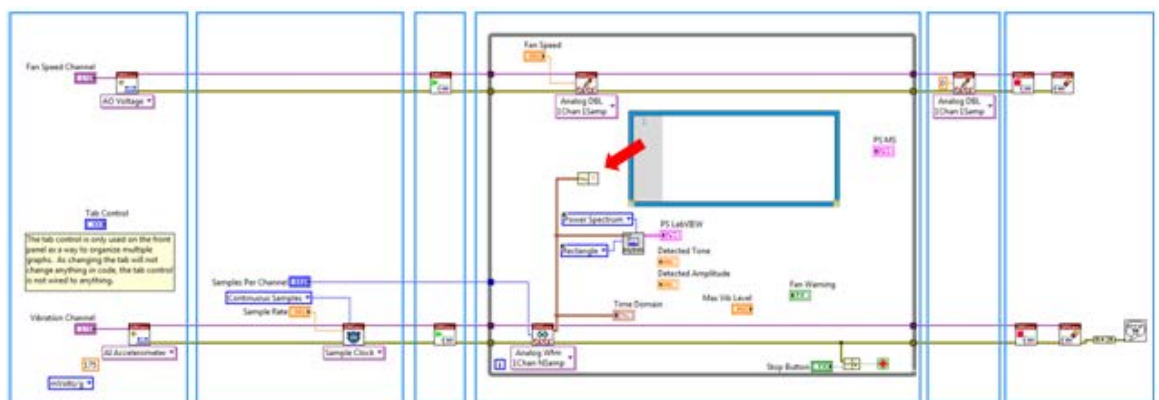

Figure 36. When you place the MathScript Node, give yourself enough room to type a few lines of text.
10. Drag a small box in the position shown in Figure 36.
the block diagram (red arrow in Figure 36). When you hover over this function, you should see handles appear. Drag the handle down.